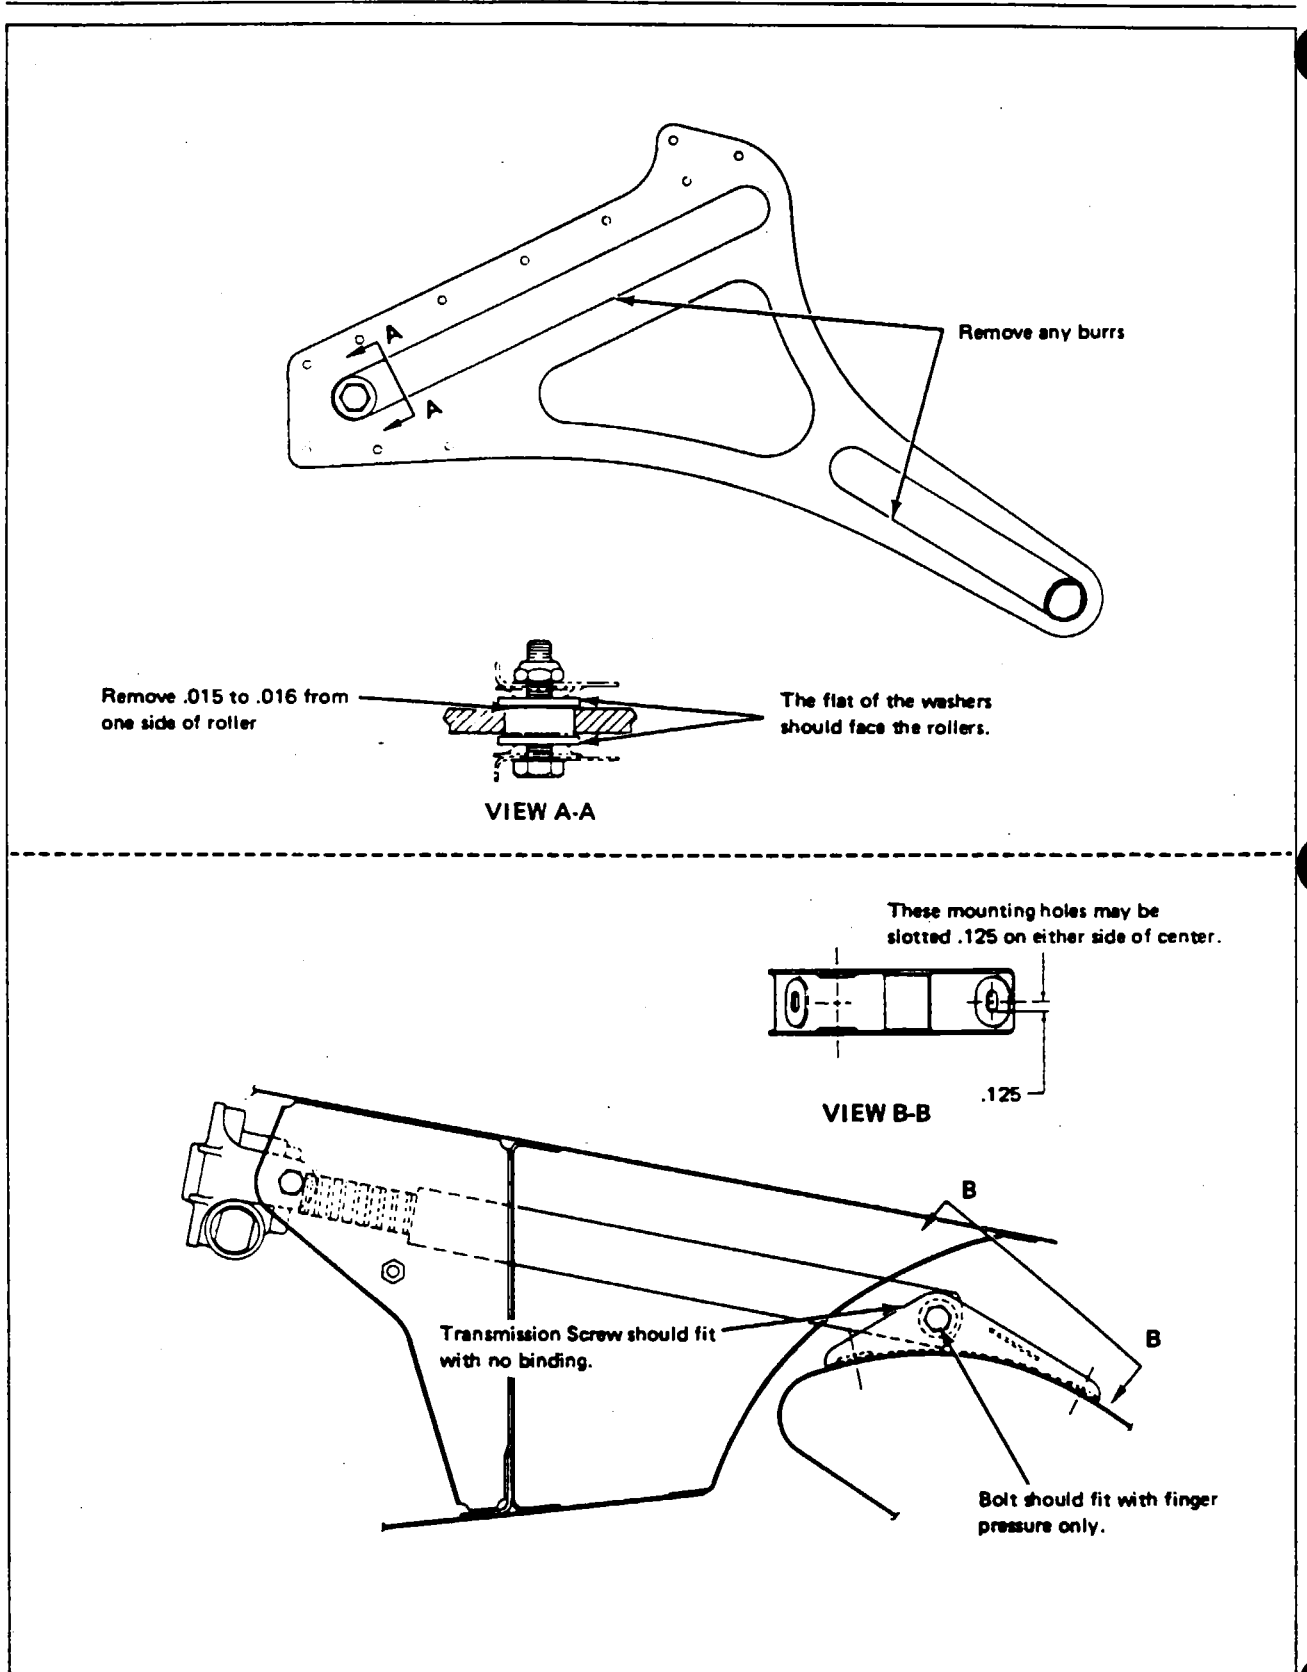

Figure 3-3. Friction Reduction in Wing Flap System
3-11. REDUCTION OF FRICTION IN WING FLAP SYSTEM. (Refer to Figure 3-3.) To insure proper flap system operation and reduce friction on the flap motor, the following inspection and repairs are only required should operational problems exist in the flap system.
- c. Inspect the flap tracks for any burrs along the track edges. If any are found, remove them with a fine file. Insure that no noticeable depressions are evident at the ends of the track areas. (Refer to Figure 3-3 for specific locations.)
- f. On each flap roller, remove 1/64 or .016 of an inch from one side of each roller. (Refer to Figure 3-3, View A-A.)
- h. Ensure that the washers used on both sides of the rollers are flat. (Refer to Figure 3-3, View A-A.)
It may be necessary to move the horn assembly to obtain this no binding fit. The mounting holes on the horn assembly may be slotted to gain some adjustment if needed. (Refer to Figure 3-3, View B-B for dimensions of slots.)
- l. Ascertain that the transmission bolt at the flap end fits into the screw end and horn assembly with finger pressure only. (Refer to Figure 3-3.)